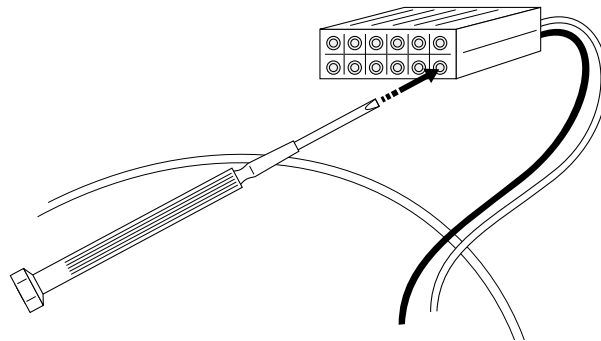

Figure 12. Power connector.
8. Disconnect the black wire and the white wire by inserting a 1/32" screwdriver into the corresponding slots in the power connector. Remove the PCB (see Figure 12).